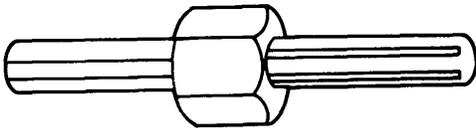
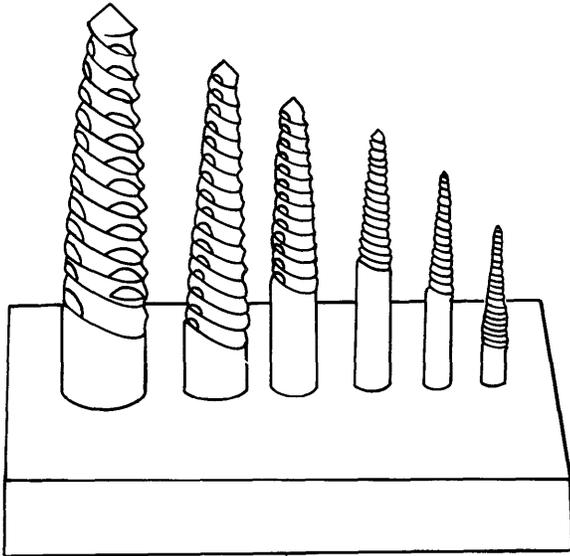

Figure 4-107. Straight Screw Extractor
Figure 4-108. Spiral Screw Extractors
(1) **Screw extractors.** Some screw extractors, as shown in figure 4-107, are straight. They have flutes from end to end. These extractors are available in sizes to remove broken screws having 1/4 to 1/2 inch outside diameters. Spiral tapered extractors, shown in figure 4-108, are sized to remove screws and bolts from 3/16 inch to 2 1/8 inches outside diameter.